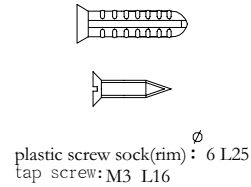
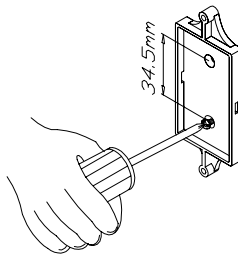

fig 3
fig 4
- ② Installation for wall cap: Find a proper position on wall, make 2 holes/with distance 34.5mm, dia.: 6mm, Depth: 25mm. Then put “plastic screw sock” (as fig 3) into these 2 holes and put “wall cap” on wall (As fig 4)